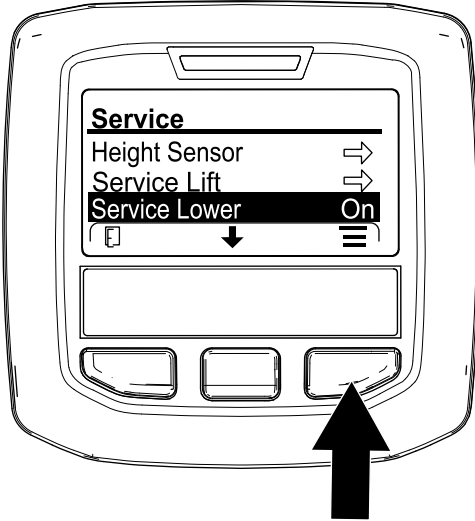

Figure 178
6. Press the center InfoCenter button until the SERVICE LOWER option is selected (Figure 178), press the right button.